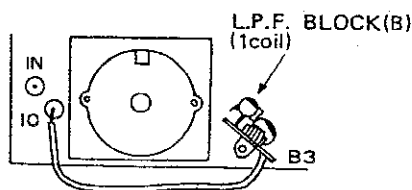

Fig. 13
5. Position L.P.F. subassembly B as shown in **Fig. 13**. Connect the capacitor lead to the "B3" board location, and the White lead to board location "IO". (**Fig. 13**)